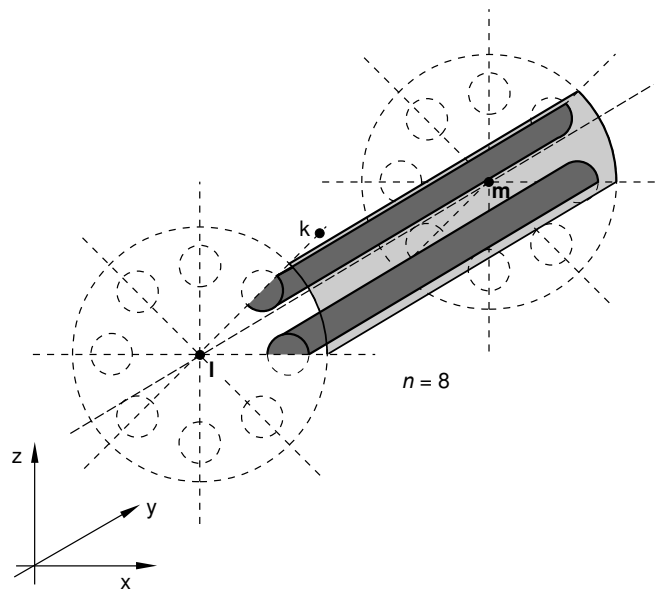

Figure 2: *CYCLIC, TYPE=AXIS option.
Set TYPE=AXIS to create a three-dimensional cavity by cyclic repetition of the cavity surface defined in the model by rotation about an axis, *lm*. See Figure 2. The cavity surface defined in the model must be bounded by the plane *lmk* and a plane passing through line *lm* at an angle, measured clockwise when looking from *l* to *m*, of $360^\circ/\text{NC}$ to *lmk*. Line *lk* must be normal to line *lm*.
1. *x*-coordinate of point *l* on rotation axis (see Figure 2).